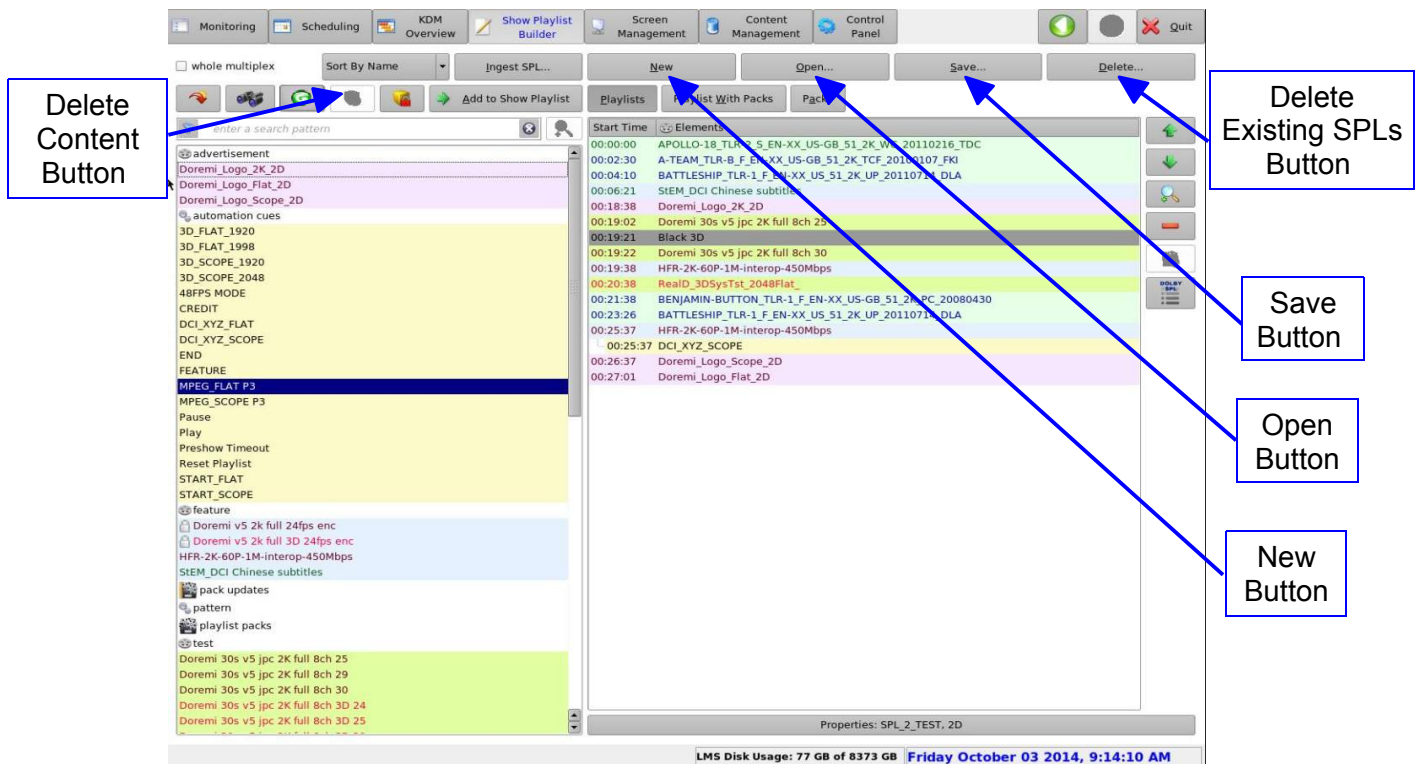
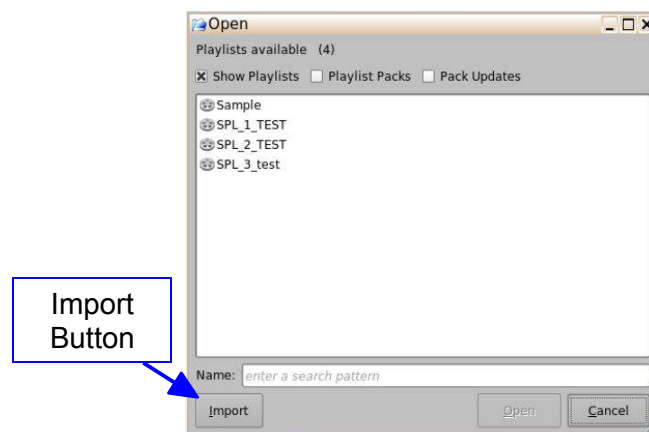

Figure 65: Show Playlist Saving
Figure 66: Import Button
When a Show Playlist has been created according to the procedure presented above, it can be saved using the Save button assuming that the user is logged in as admin or manager. Click the Save button to save the Show Playlist (Figure 65). Clicking the Save Button will also give the user the option to export a SPL from a USB (Figure 81).
- If a new playlist needs to be created, click on the New button (Figure 65). This action will remove the Show Playlist display on the right part of the user display.
If a Show Playlist already exists, it can be opened using the Open button (Figure 65). The Show Playlist will be displayed into the right part of the user interface as if it was created according to the procedure presented above. Clicking the Open button will also give the user the option to import a SPL to a USB (Figure 66).
When the check-box next to these selections has been marked, the content will be filtered according to what has been selected (Figure 66).
- Click on the Delete Content button (Figure 65).
- To delete existing Show Playlists, click on the Delete existing SPLs button (Figure 65).